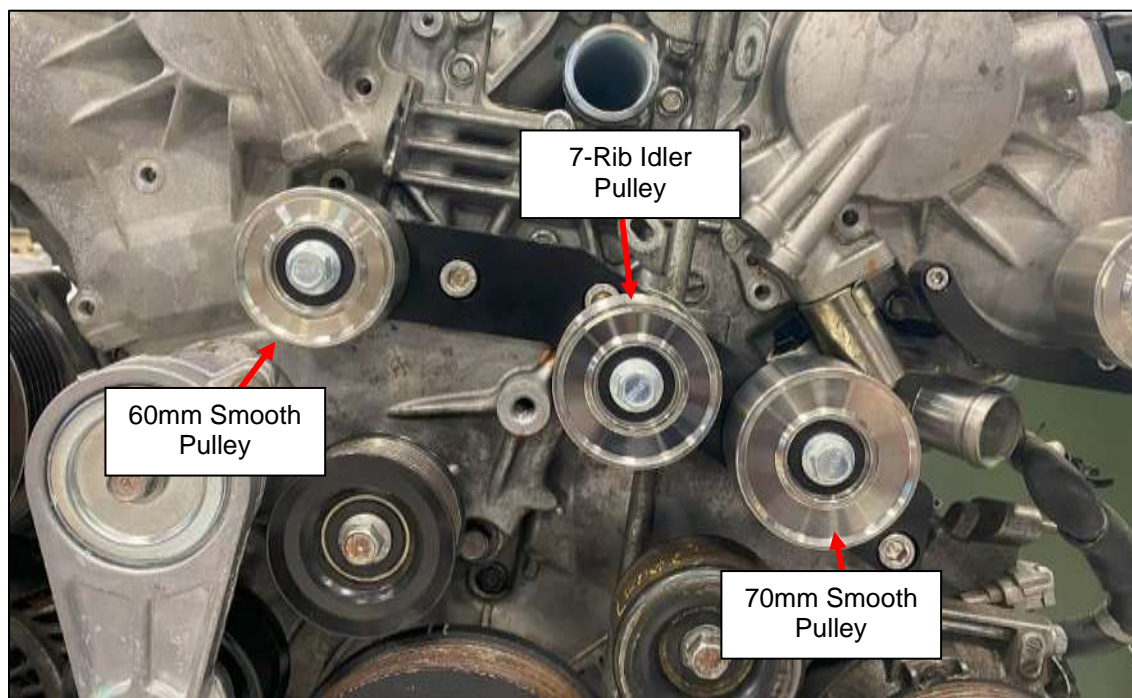

Figure 18
4. Locate a 60mm Smooth Pulley (#44), the 70mm Smooth Pulley (#43), a 7-Rib Idler Pulley (#45), (3) three M10 x 50mm Bolts (#42), and (3) three 5mm Spacers (#46). Install the Pulleys with a Spacer onto the Triple Idler Bracket according to *Figure 18* below. The order should be **BOLT → PULLEY → SPACER → BRACKET**. Torque idler pulley bolts to **21 ft-lbs**.